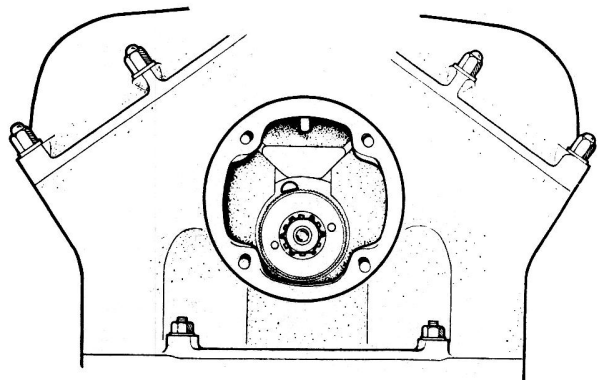

Fig.1.44. The serrated plate for adjustment of the top timing chain
- 2 By access through the breather aperture in the front of the cylinder head, slacken the locknut securing the serrated plate (see Fig.1.44), press the locking plunger inwards and rotate the serrated plate, by engaging a tool (a pair of round nosed pliers will be found suitable), in an anti-clockwise direction. Turn the engine each way slightly and check the chain tension. When tensioned correctly there should be slight flexibility on both outer sides below the camshaft sprockets, the chain should not be dead tight. Release the locking plunger to the serrated plate and securely tighten the plate locking nut.